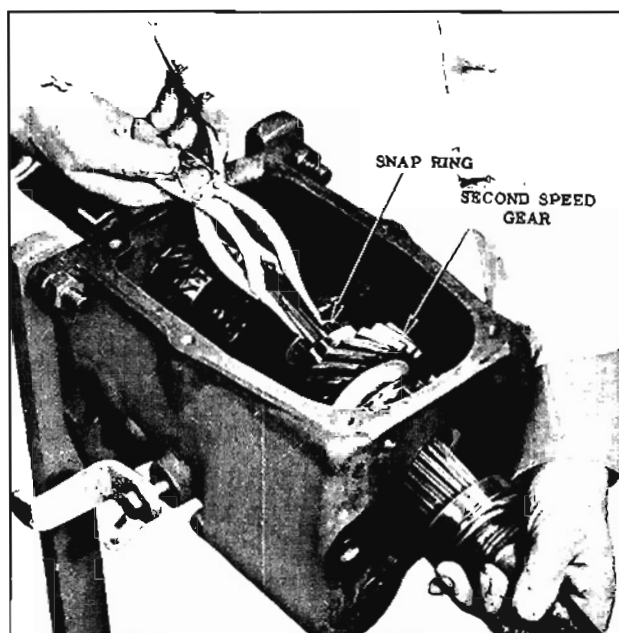

Fig. 7-10 Removing Second Speed Gear Snap Ring
7. Remove the snap ring holding the second speed gear on the main shaft. (Fig. 7-10)